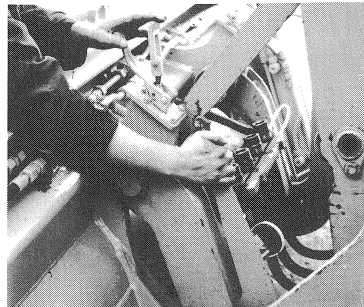

Fig. 22
- (2) Take up shovel from the ground by means of the quick-changing frame and tilt the quick-changing frame with shovel to such an extent that the quick-changing frame is in contact with the back of the shovel and the clamping lever can be pushed to the front (Fig. 22).